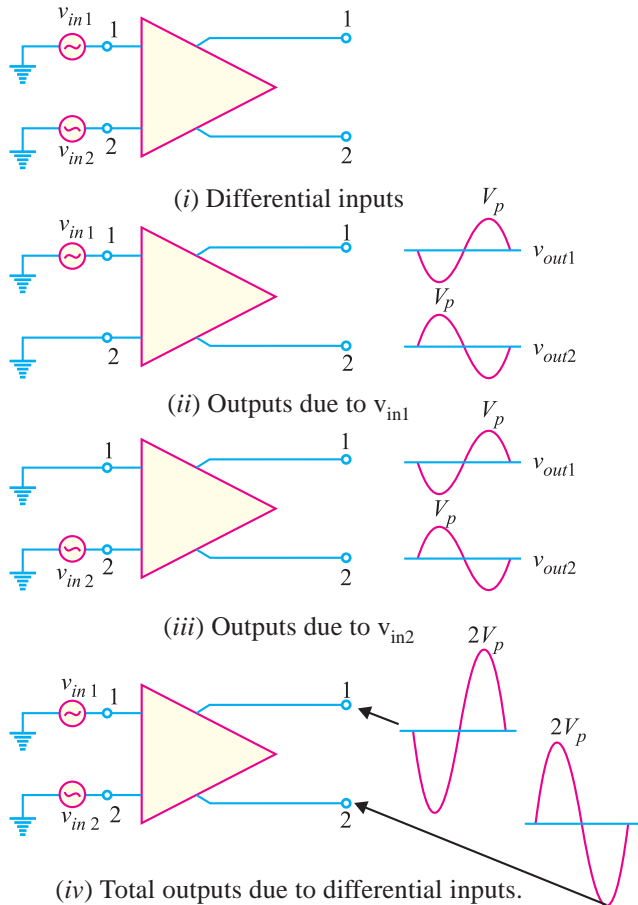

Fig. 25.10
(i) **Differential input.** In this mode (arrangement), two opposite-polarity (180° out of phase) signals are applied to the inputs of DA as shown in Fig. 25.10 (i).
As we shall see, each input affects the *outputs. Fig. 25.10 (ii) shows the output signals due to the signal on input 1 acting alone as a single-ended input. Fig. 25.10 (iii) shows the output signals due to the signal on **input 2 acting alone as a single-ended input. Note that in Figs. 25.10 (ii) and (iii), the signals on output 1 are of the same polarity. The same is also true for output 2. By superimposing both output 1 signals and both output 2 signals, we get the total outputs due to differential inputs [See Fig. 25.10(iv)].
* Note that in all the Figures in Fig. 25.10, the phase of the input signal is given in the circle and the phase shift in the output signal is given at the output terminals. Thus in Fig. 25.10 (ii), the output signal at terminal 1 is 180° out of phase with the input signal. On the other hand, the output signal at terminal 2 is in phase with the input signal.
** Note that a DA amplifies $(v_1 - v_2)$. For Fig. 25.10 (ii), $v_{in1} - v_{in2} = v_{in1} - 0 = v_{in1}$. For Fig. 25.10 (iii), $v_{in1} - v_{in2} = 0 - v_{in2} = -v_{in2}$.